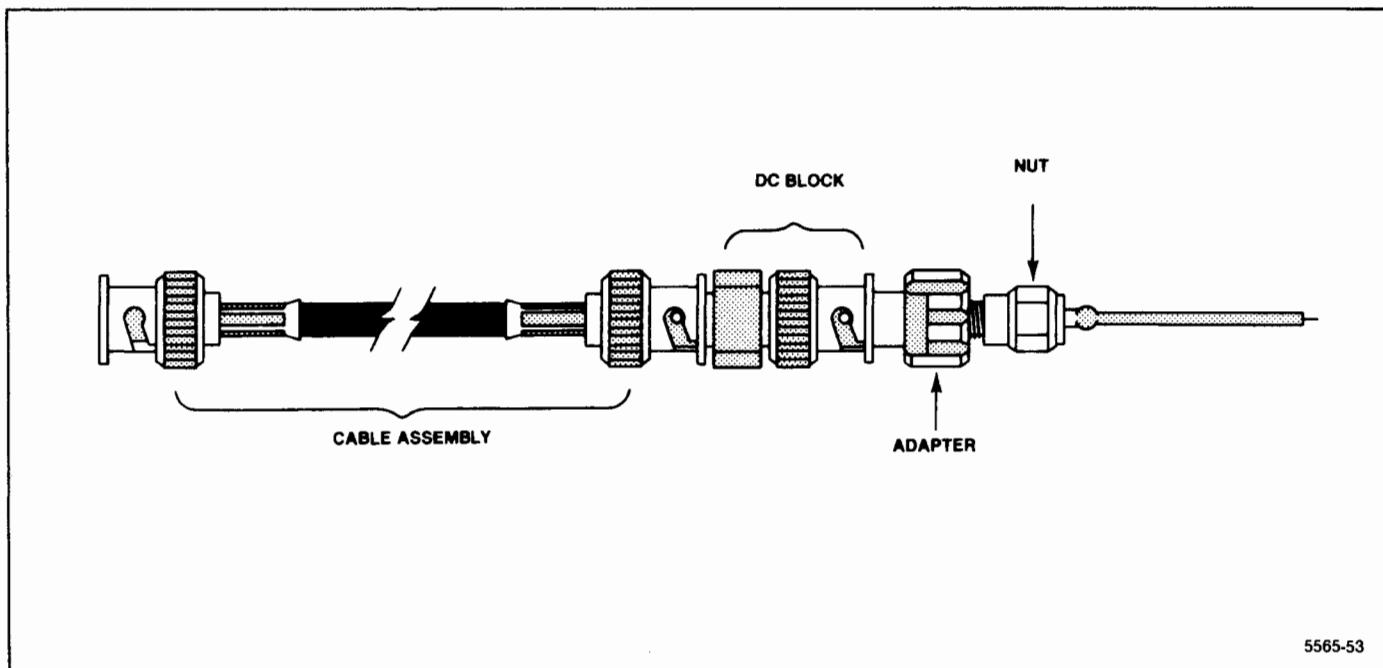

Figure 6-22. Coaxial test probe construction details.
a. Use a probe, consisting of a short length of semi-rigid coaxial cable with a dc block (see Figure 6-22), to connect the output of the reference mixer at C2204 to the input of the test spectrum analyzer. Ground the outer shield of the coaxial cable against the 2nd LO housing.
When making power measurements of microwave circuitry, at circuit board interfaces, use a coaxial probe with very little stray inductance (see Figure 6-22). Ground the outer conductor of the probe to the circuit housing as close as possible to the measurement port. Disconnect other loads from the measurement point.